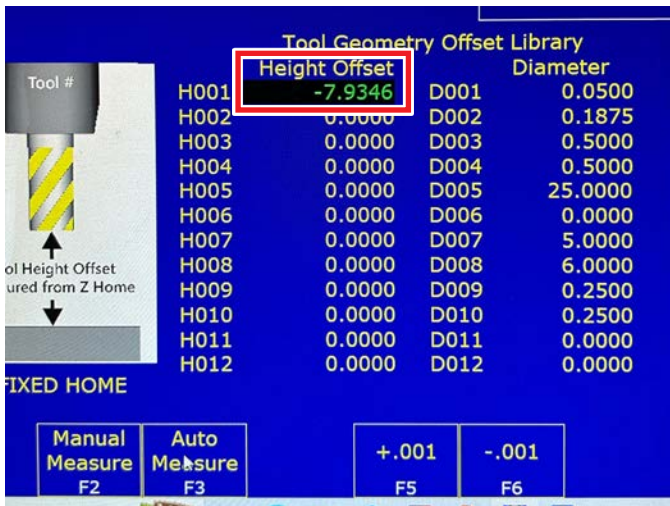

FIGURE 36
- After the touch off cycle is complete and the Z-axis has retracted to the Z home position, the correct Height Offset value will show in green (see Figure 36).